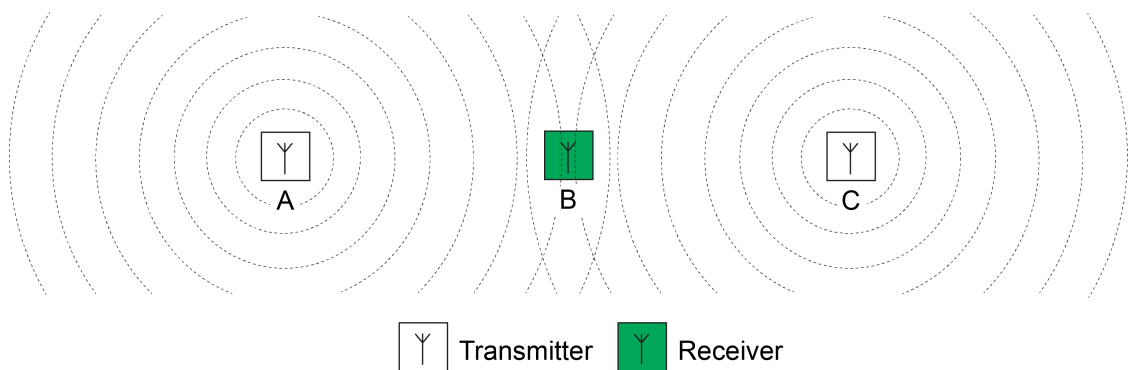

Figure 2: Radio collisions on the receiver due to the transmitter being too far away
The described transmission method for controlling media access generally prevents radio collisions in a KNX RF environment, but cannot exclude them completely. For example, it may occur that, in the case of a transmission between an RF transmitter (A) and an RF receiver (B), there is an additional RF transmitter (C), which is located within the range of the RF receiver, but cannot reach the other RF transmitter due to the spatial distance (figure 2). In such a case, the two RF transmitters are unable to detect when the other transmits radio signals (Hidden Station Problem). In consequence, radio collisions can occur on the receiver located in the range of the two RF transmitters.